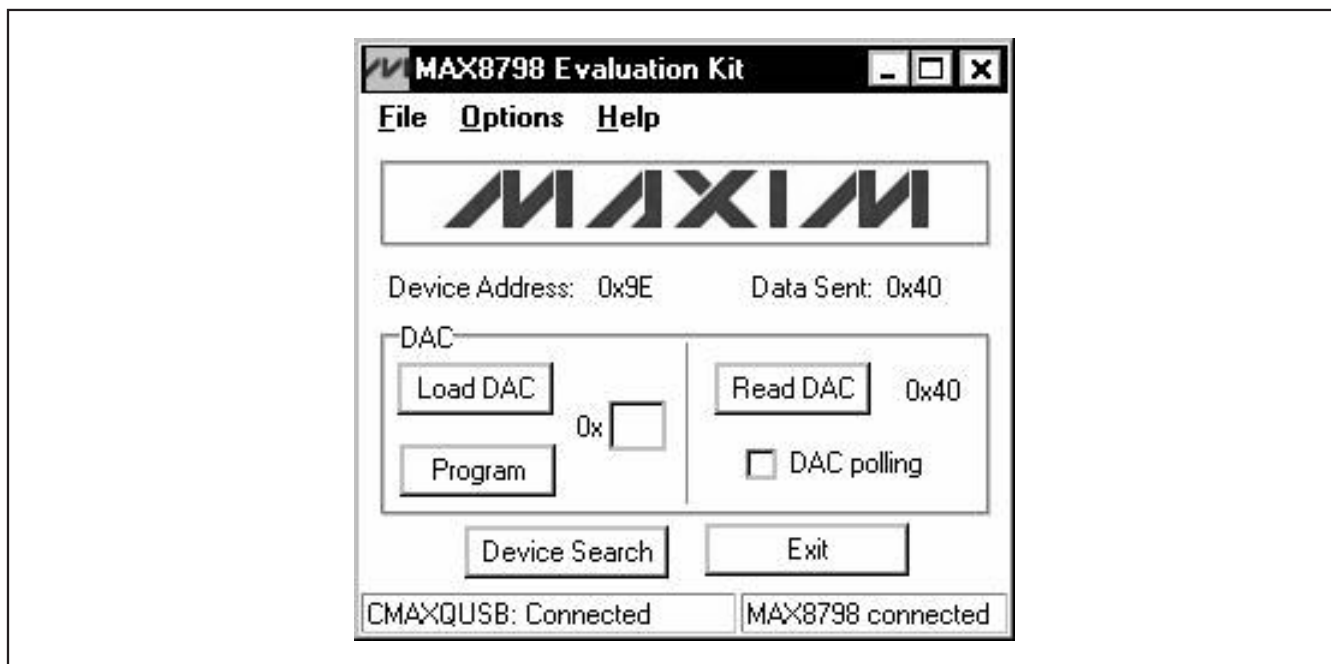
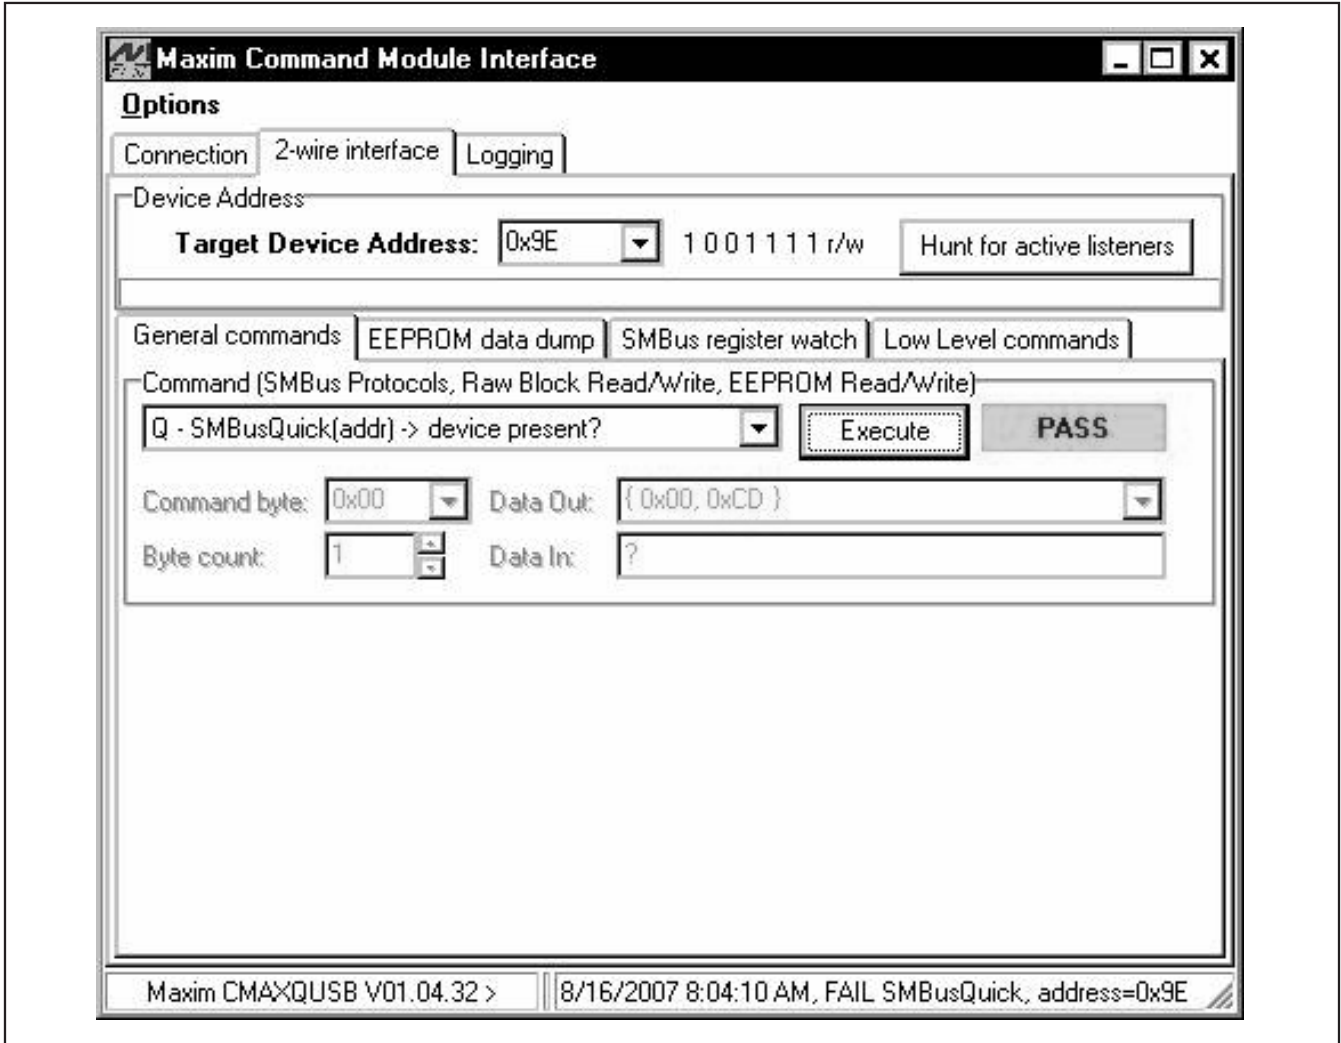

Figure 1. MAX8798 EV Kit Software Main Window
Figure 2. Command Module Interface Window
- 9) Normal device operation is verified when **MAX8798 connected** is displayed in the **status bar** on the MAX8798 EV kit main window (Figure 1).
ropriate DAC setting into the **DAC** edit box. The DAC setting can be set from 0x00 (VCOM_{MAX}) to 0x7F (VCOM_{MIN}). The DAC setting is written to the device by pressing the **Load DAC** button (Figure 1).
There are two methods for communicating with the MAX8798: through the MAX8798 EV kit software main window (Figure 1), or through the interface window available by selecting the **Options I Interface** menu item from the menu bar. The Maxim command module interface window (Figure 2) includes a **2-wire interface** tab that allows for execution of the **SMBusSendByte()**, **SMBusReceiveByte()**, and **SMBusQuick()** commands. See Table 3 for details regarding SMBus commands.
The **Command byte** combo box accepts numeric data in binary, decimal, or hexadecimal. Hexadecimal numbers should be prefixed by \$ or 0x. Binary numbers must be exactly eight digits. See Figure 2 for an illustration of this tool.